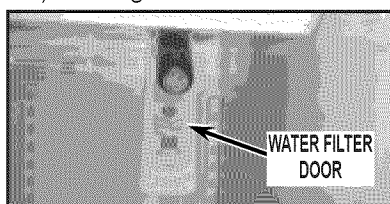

FIGURE 3
5. Locate water filter door and remove water filter; (place water filter to side). See *Figure 3*.